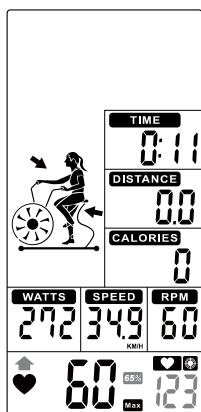

Figure 47
- ④ When Heart Rate goes below to 65%, 65% & value will flash. And buzzer sounds in every 10s until user HR achieve above 65% (Figure 47).